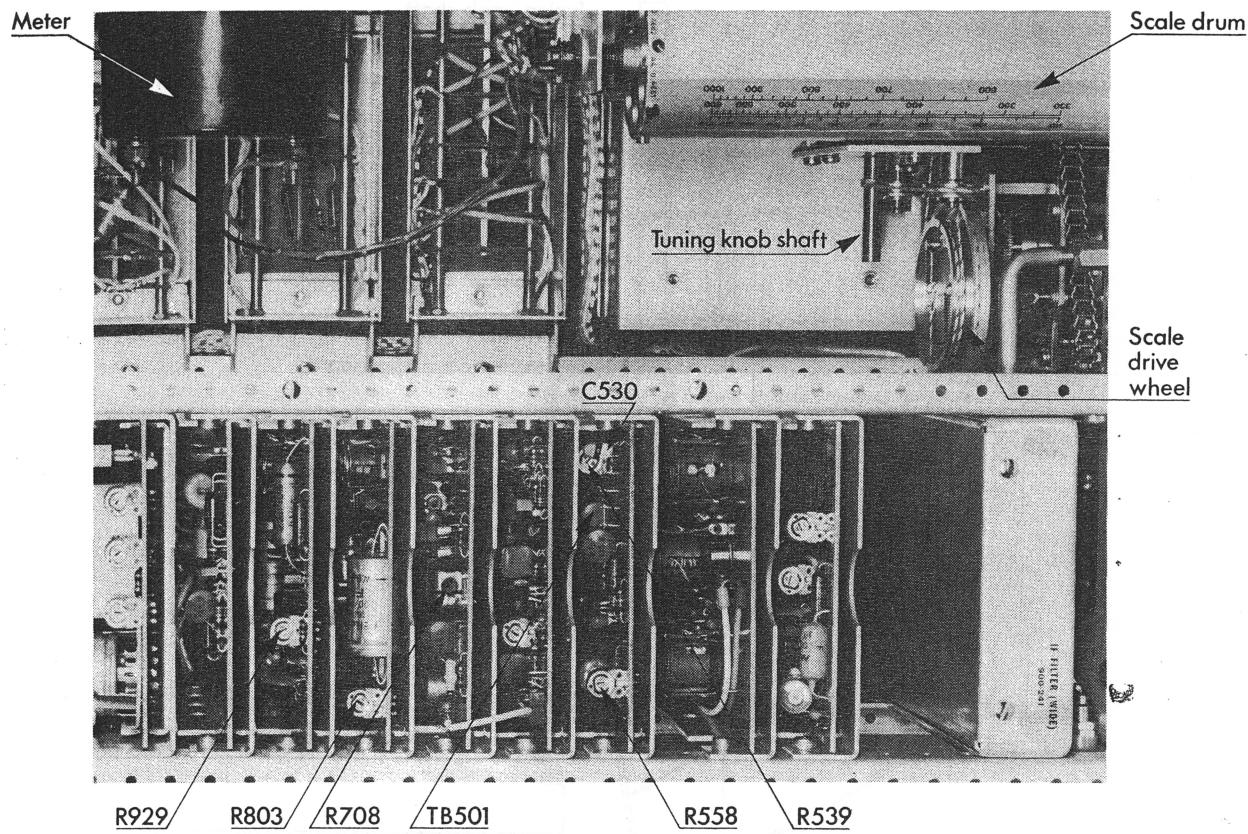

Fig.G6.
- 101) Using a trimming tool, adjust the potentiometer R708, shown in Fig.G6, until the DC DVM indicates 955 mV.
- 116) Using a trimming tool, adjust the potentiometer R803, shown in Fig.G6, until the DC DVM indicates 0 V ± 10 mV.
- 122) Using a trimming tool, adjust potentiometer R929, shown in Fig.G6, until the METER on the AFM2 indicates zero.